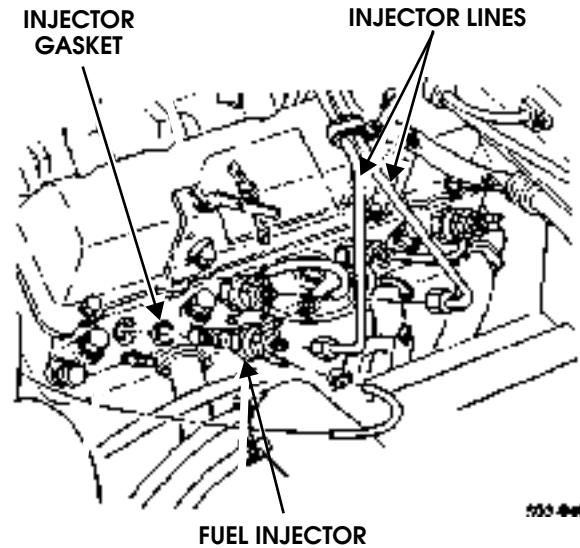

Figure 3-53: Fuel Injector and Gasket Removal/Installation
2. Disconnect fuel return hoses from necessary injector (Figure 3-53).
4. Disconnect fuel line at injector (Figure 3-53).